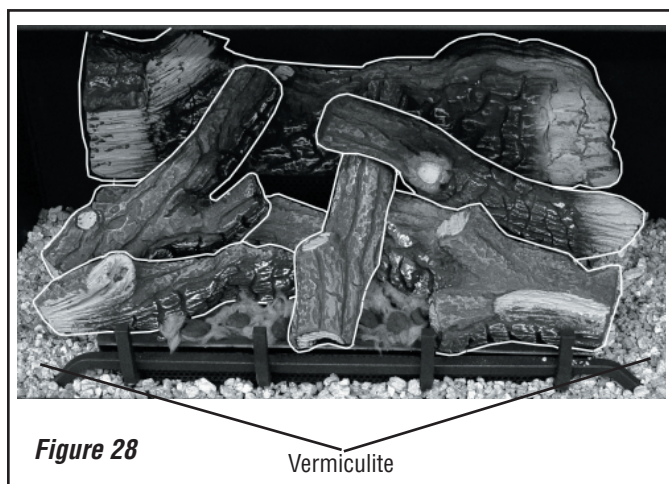

Figure 28
- Place some vermiculite around the burner as shown in Figure 28 before installing the logs (the entire bag of vermiculite will NOT be used).